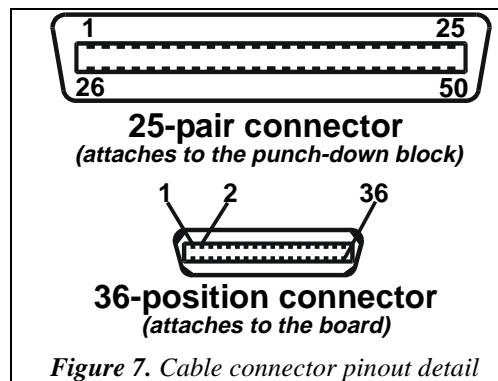

Figure 7. Cable connector pinout detail
- As shown in *Figure 7*, the station interface cable terminates at the punch-down block end with a 25-pair, v 57-series Amphenol plug to allow available type-66 punch-down blocks to be used